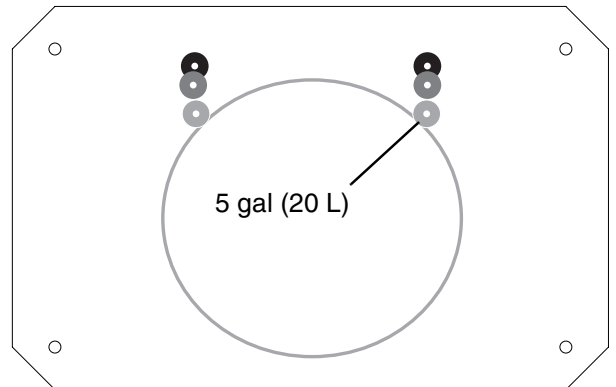

FIG. 8: Ram Base
2. Using the capscrews (FA) and lock washers (not shown), attach the drum stops (FB) to the ram base.
**NOTE:** Only use the 5 gallon drum stop position shown in FIG. 8.